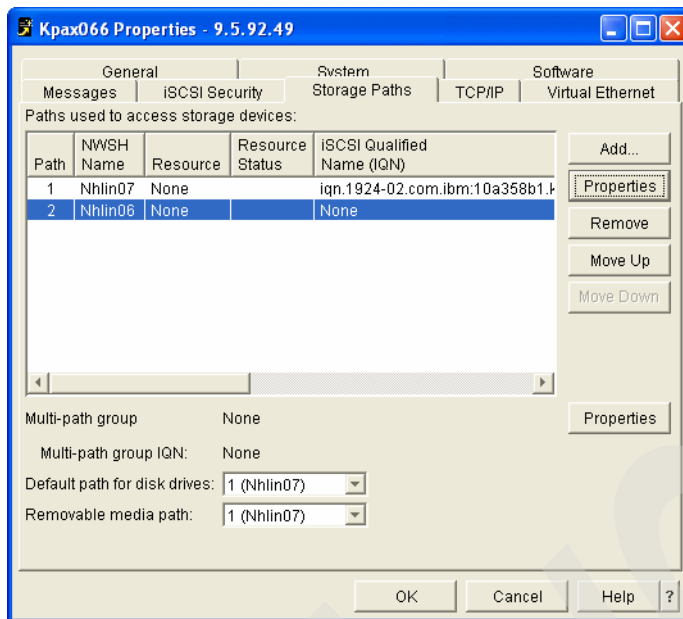

Figure 9-56 Creating a storage path for a hosted server - 3
6. The network server host adapter is added to the list of available storage paths for this hosted server as shown in Figure 9-56 on page 425. Note that the new storage path does not display an IQN until the hosted server has been restarted and a connection has been made between the new storage path and an initiator HBA port.